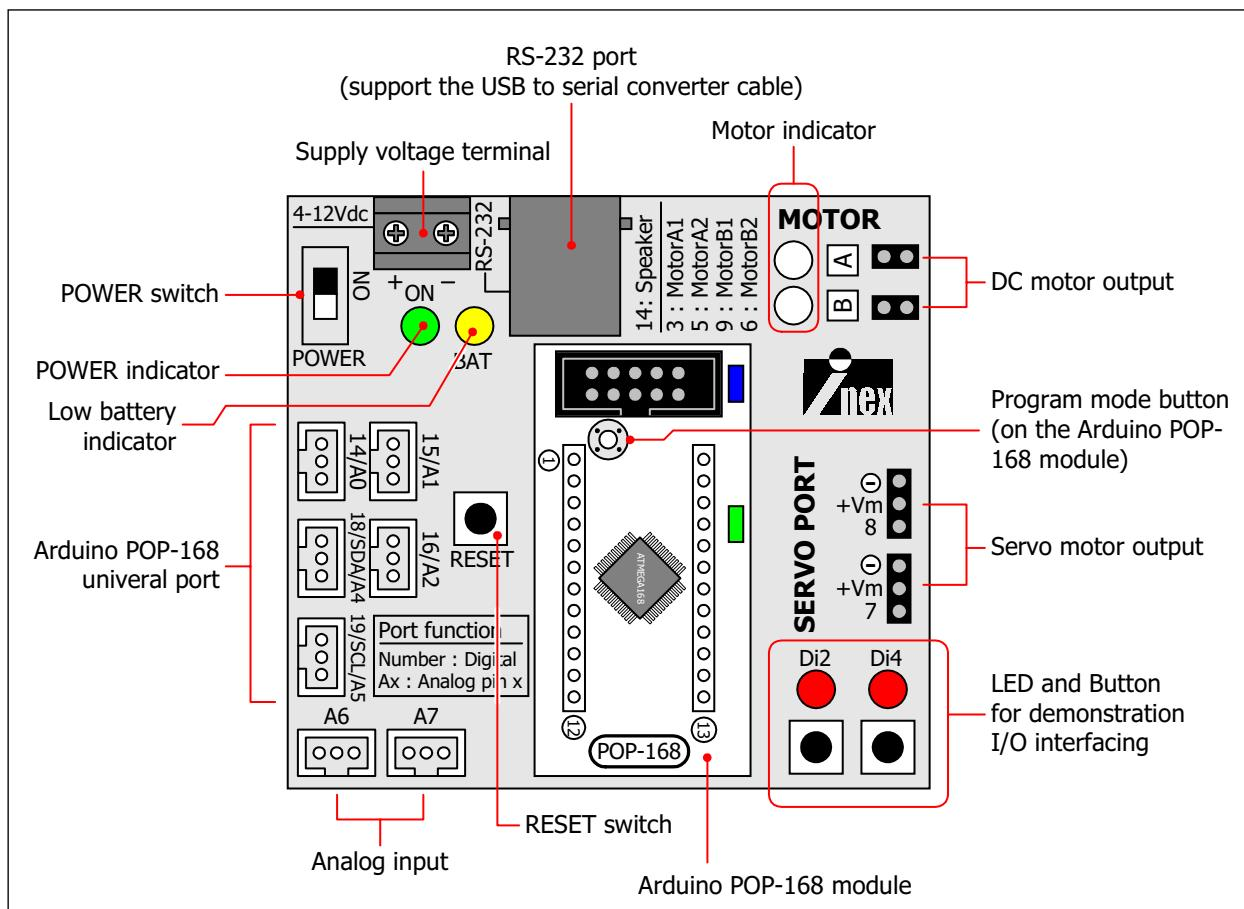

Figure 1-2 The layout of RBX-168 controller board
The RBX-168Robot controller board is a complete, low-cost development platform designed for those interested in learning and using Arduino POP-168 module in robotic applications. Its compact size, convenient features, and low price make it an ideal tool for the student and educator. Figure 1-2 shows the layout of RBX-168 board and complete schematic diagram of its is shown in the figure 1-3. The summarized technical feature of the RBX-168 board is as follows :
- Piezo speaker connections (do not show in the figure 1-2; it is fixed at bottom circuit board of RBX-1689 board. It is connected with POP-168 An0/Di14 pin.